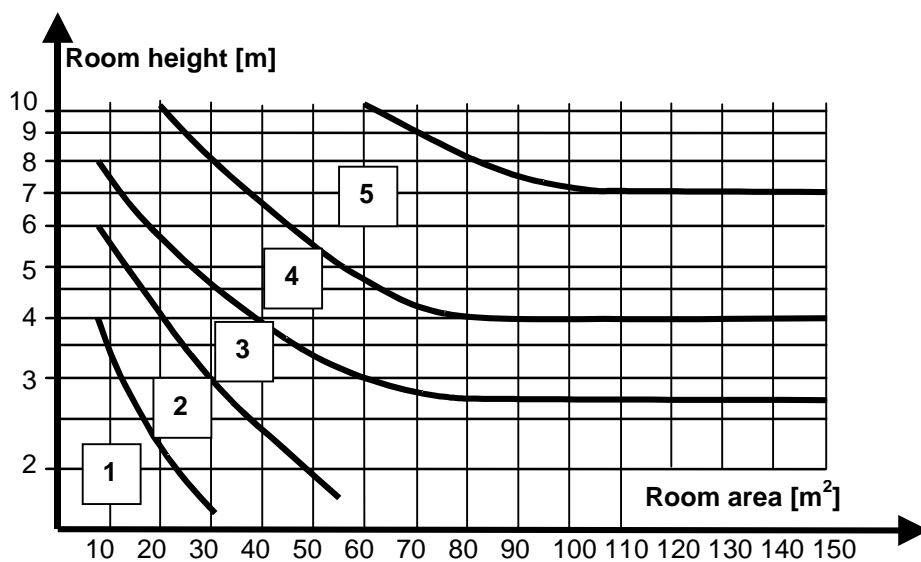

Fig. 3 Zone factors for air exchange < 7 times/h
Firstly, using figure 3, determine the zone factor on the basis of the room area (not to be confused with the monitoring area per detector) and room height. By means of this zone factor it is possible to read off the number of sticks required in table 3.
1. Zone factor according to Figure 3 -> 4